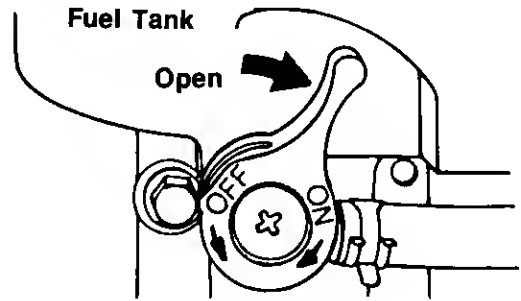

FIGURE 22.
4. The fuel shut-off valve is located beneath the fuel tank. The fuel shut-off valve should be in the open position. See figure 22. Open fuel shut-off valve if it is closed.